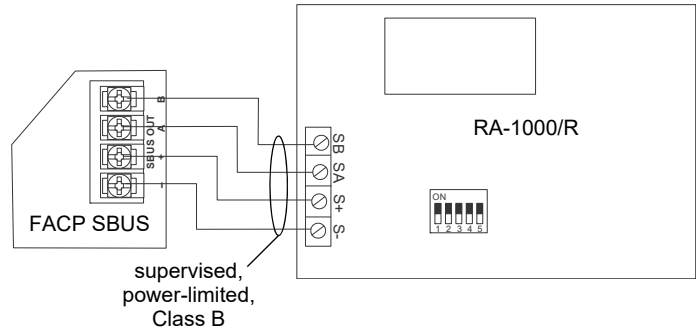

Figure 5 SBUS Connections
3. Connect the RA-1000/R to the panel (see Figure 5).